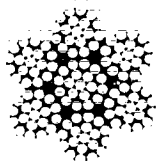

Figure 7-45. Steel Strand Core
**Strand Core** (Figure 7-45) consists of a strand of steel wires, nominally 7, 19 or 37. It is occasionally used in running rope of smaller diameters rather than IWRC. It may also be used in standing ropes, guys, suspender ropes, etc. where extra strength, reduced stretch and maximum resistance to weathering are required.